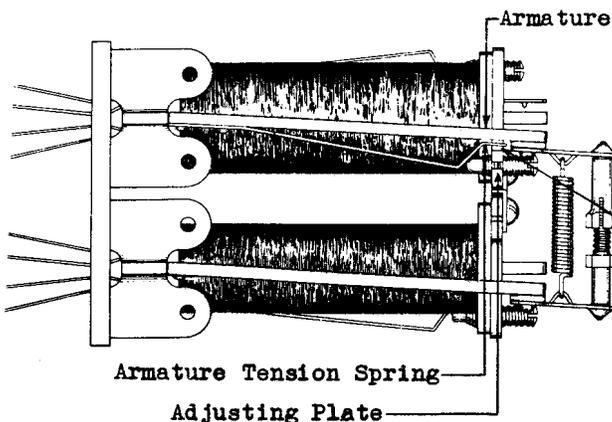

Fig. 6
2.13 Armature Tension Spring Position On relays equipped with the type of armature tension spring shown in Fig. 6, there shall be a perceptible clearance (approximately .005") between the armature and the spring and between the spring and the adjusting plate when the relay is in its operated or un-operated position. Gauge by eye.